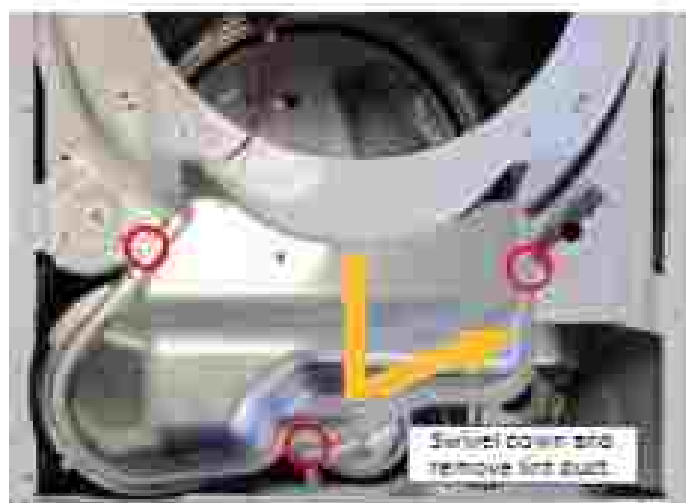

Figure 1 - Remove lint duct screws.
4. Remove the three (3) 1/4" Hex-head screws from the lint duct as illustrated in Figure 1. Swing the lint duct down and remove.